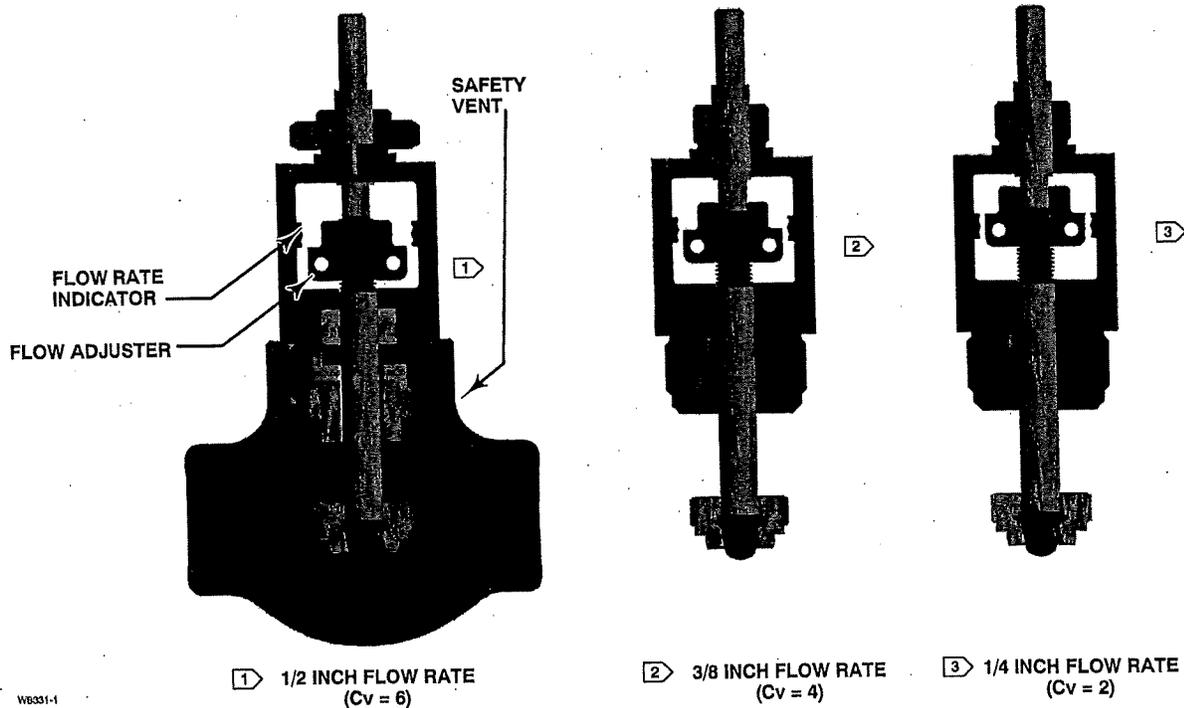

Figure 4. Flow Rate Adjustments
9. Set the flow adjuster to the desired travel position (see figure 4), and tighten the flow adjuster socket head cap screws to 3 N•m (26 lbf•in).
Avoid personal injury from sudden release of process pressure. If the process media starts to escape from the safety vent (see figure 4) located in the bonnet neck of the valve body,
27. Set the flow adjuster to the desired travel position (see figure 4), and tighten the flow adjuster socket head cap screws to 3 N•m (26 lbf•in).